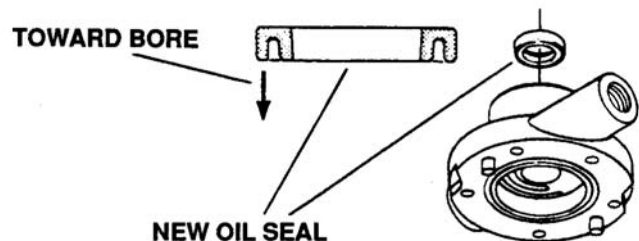

Figure 6-127. Oil Seal Installation
14. Lubricate inner surface of new oil seal and install in charge pump housing with the rubber lip toward the bore. Make sure seal is completely seated. See Figure 6-127.